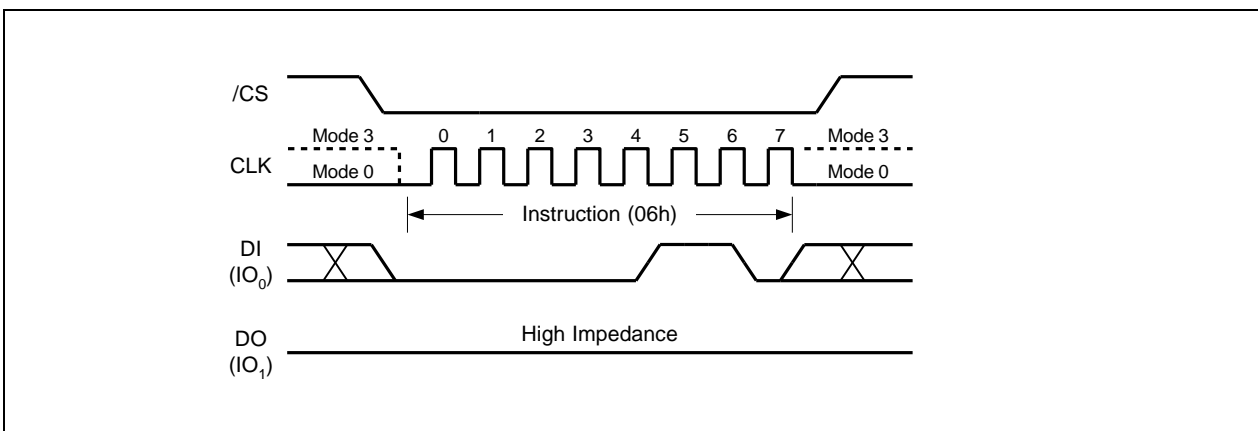

Figure 5. Write Enable Instruction for SPI Mode
The Write Enable instruction (Figure 5) sets the Write Enable Latch (WEL) bit in the Status Register to a 1. The WEL bit must be set prior to every Page Program, Quad Page Program, Sector Erase, Block Erase, Chip Erase, Write Status Register and Erase/Program Security Registers instruction. The Write Enable instruction is entered by driving /CS low, shifting the instruction code "06h" into the Data Input (DI) pin on the rising edge of CLK, and then driving /CS high.